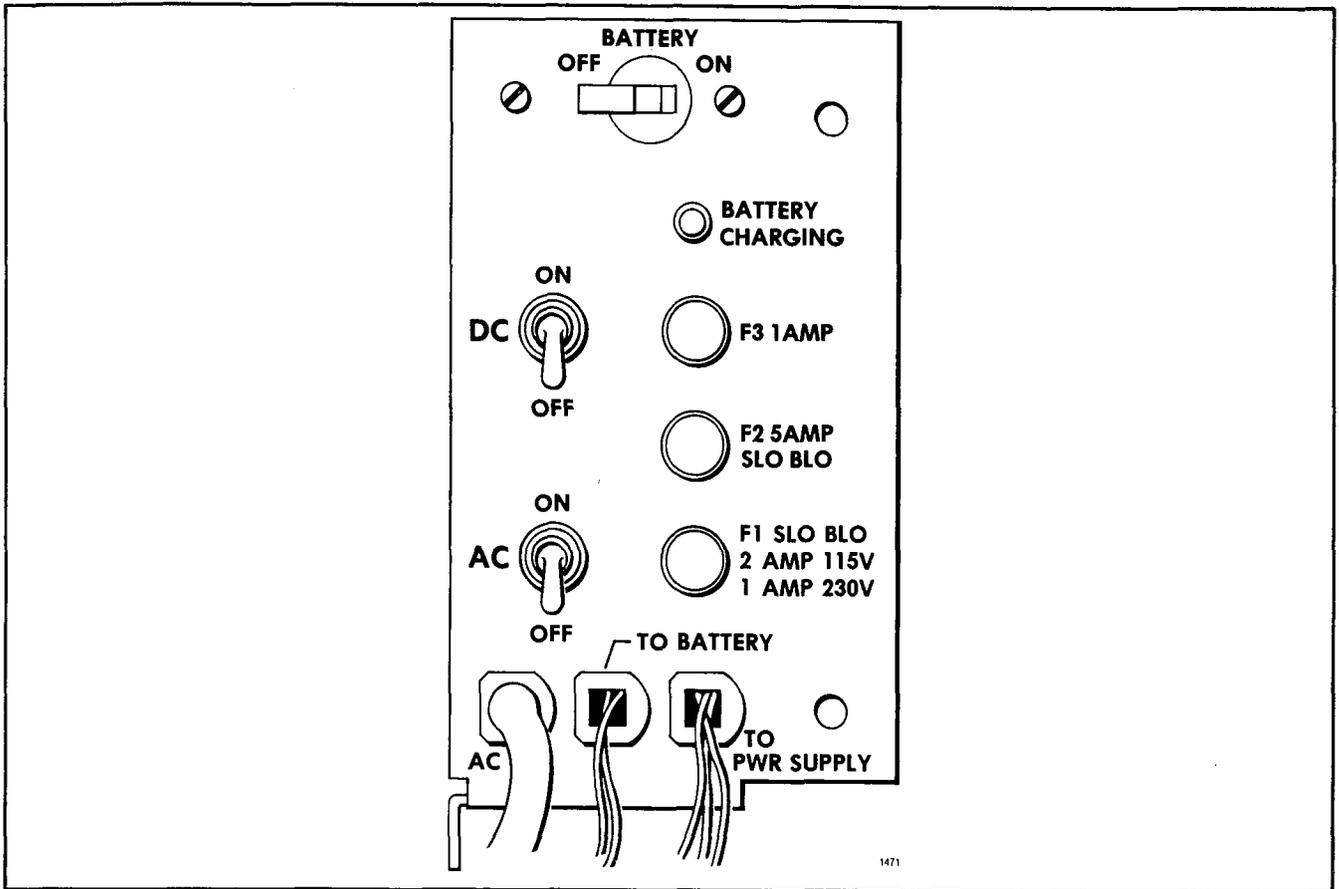

Fig. 6-6 Reserve Battery Charger
- If the system is equipped with a reserve battery backup (MITL9110-014 SX-200 or 9105-014 SX-100) separate fusing is included in the charger unit itself, Fig. 6-6 There are three fuses; a one amp charging fuse, a five amp output fuse and a two amp AC fuse. In addition there are two 20 amp circuit breaker (one on the battery pack, one